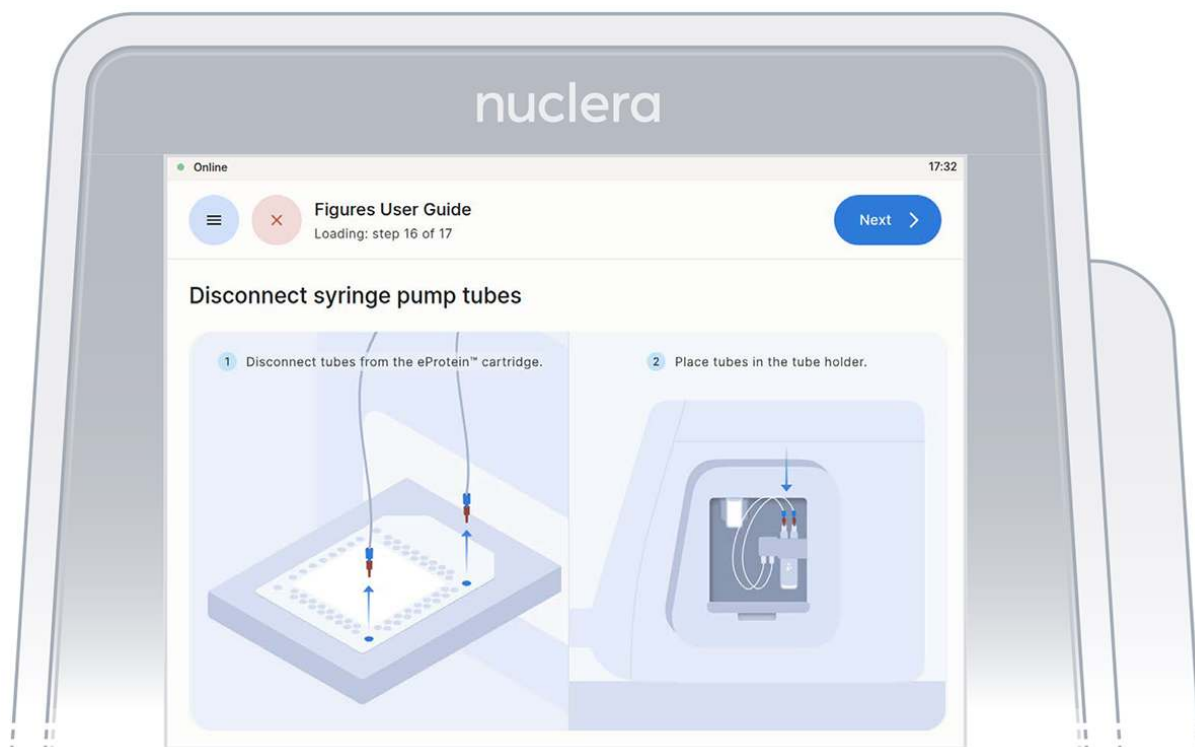

Figure 25: Disconnect the tubes and place them on the tube holder
2. Disconnect the tubes from the cartridge and place them in the tube holder on the right hand side of the instrument. Press the **[Next]** button on the screen (Figure 25), and the drawer will close. Quality controls will be performed, and the drawer will open.